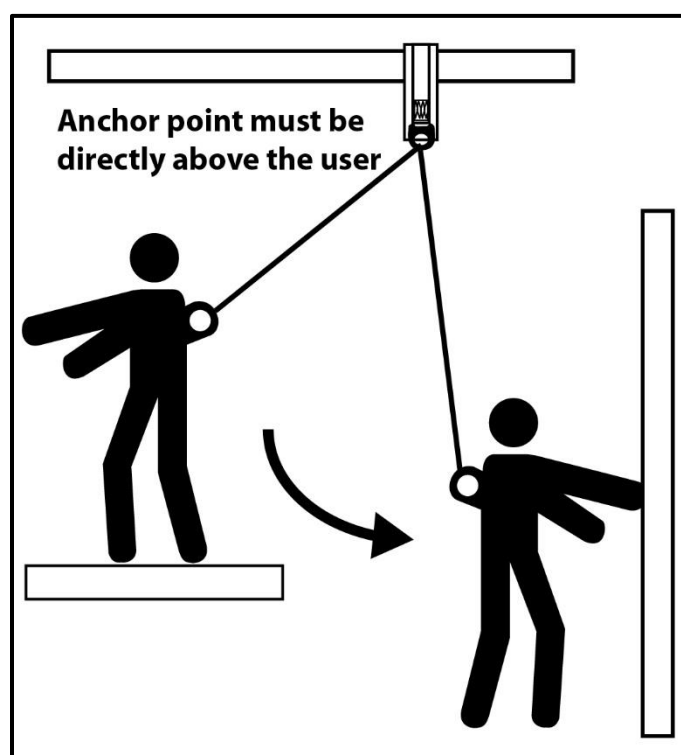

Fig 3.
- 1) To minimize the possibility of a swing fall hazard, install the device directly over the work area (see fig 3, page 6.)